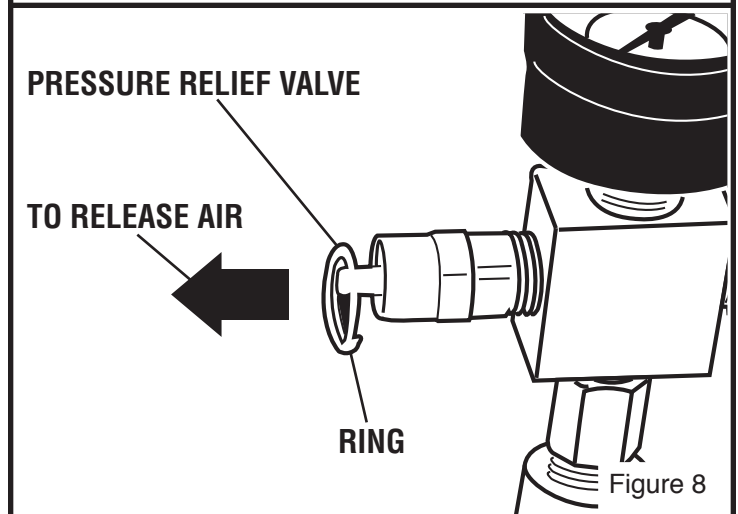

Figure 8
- Tilt tank as shown in figure 8 to drain moisture from tank into a suitable container.